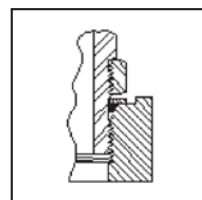

Fig. JA6
4. Screw stud into the O-Ring port until the washer fully bottoms out on face of the port. See Fig.JA6.